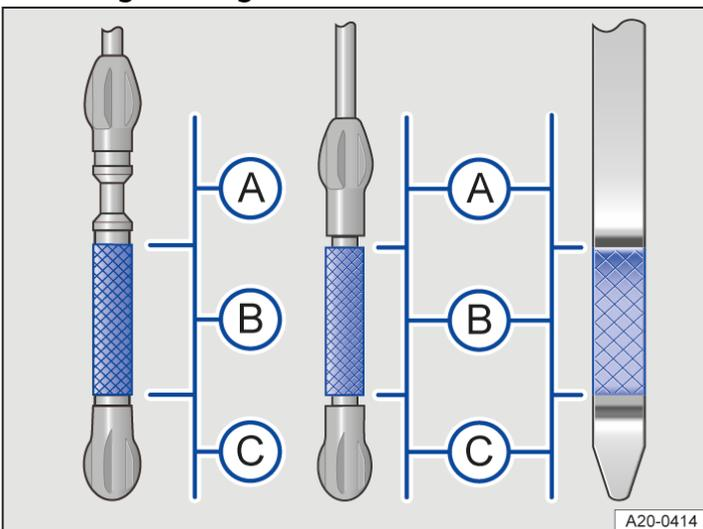

Fig. 2 Engine oil level markings on the oil dipstick (variants).
3. Pull out the oil dipstick again and read the engine oil level on the dipstick as follows → *Fig. 2*:
- (A) Engine oil level too high – observe the messages on the instrument cluster display or contact a correspondingly qualified workshop, if necessary. Volkswagen recommends using a Volkswagen dealership.
- (B) Engine oil level in the normal range. The engine oil can be filled to the upper limit of this range, e.g. if the engine is operated at high loads .
- (C) Engine oil level too low. It is essential to refill engine oil. If necessary, observe the messages in the instrument cluster display.